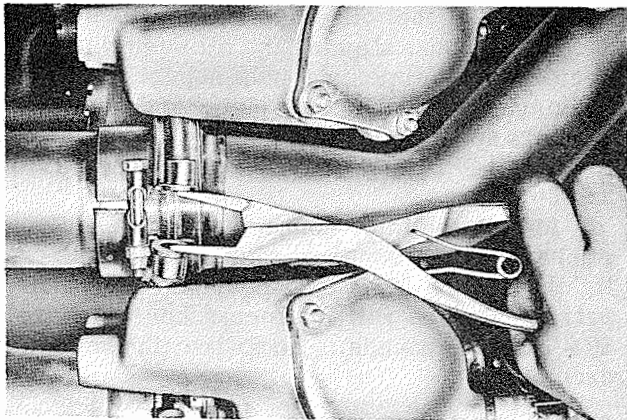

Figure 7-41. Separating Exhaust Pipe Clamp
c. Remove the nut and bolt from the clamps that secure the rear exhaust pipes to the front exhaust pipes, the clamps at the front and rear cylinders and the clamp at each power recovery turbine. Use pliers 923180 to separate the clamps. See figure 7-41. Slide the clamps onto the exhaust pipes, with the exception of the clamp at the turbine nozzle which slides onto the nozzle.